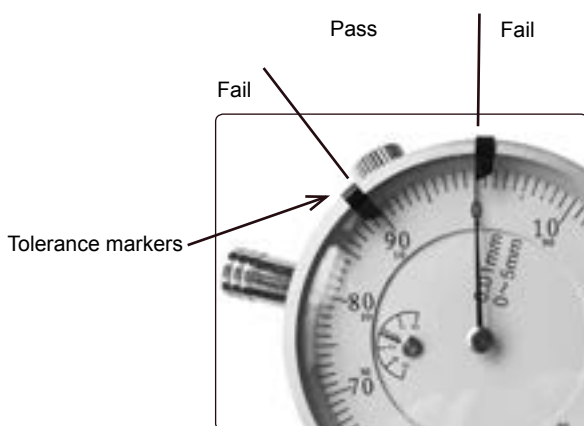

fig.6
- 5.2.7. The tolerance band can now be set using the two "markers" on the bezel. Our example states the tolerance band to be +0.100 to -0. Set one marker opposite and in line with "0" [zero] (fig.6) and the other +10 (fig.7) divisions apart. Note! the larger the deflection the smaller the bore.